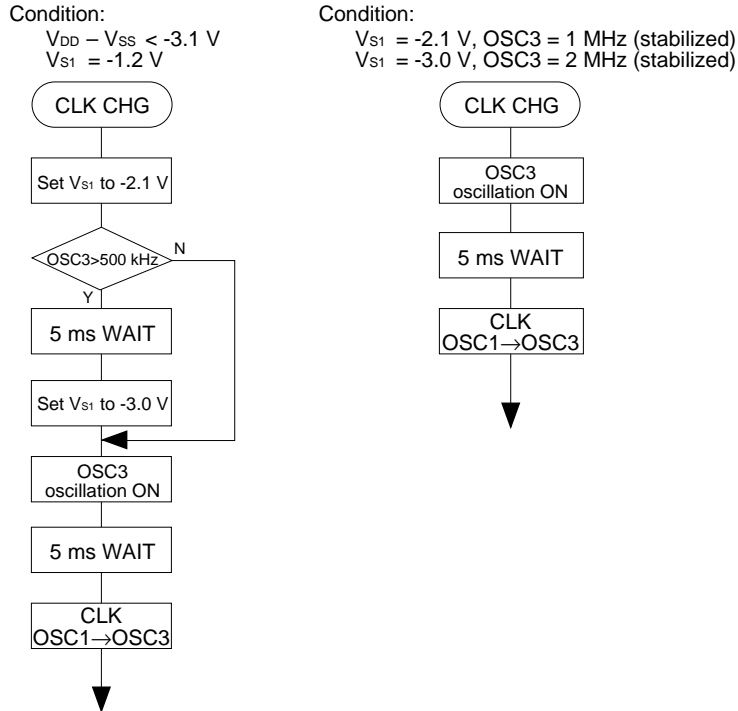

Fig. 5.6.1 CPU operating clock control flow
*Note: When switching the CPU operating clock from OSC1 to OSC3, follow the flow chart shown in Figure 5.6.1 and then proceed with software processing.*
- (4) When switching the CPU operating clock from OSC1 to OSC3, follow the flow chart shown in Figure 5.6.1 and then proceed with software processing.
- (5) Use separate instructions to switch the clock from OSC3 to OSC1 and turn the OSC3 oscillation OFF. Simultaneous processing with a single instruction may cause malfunction of the CPU.